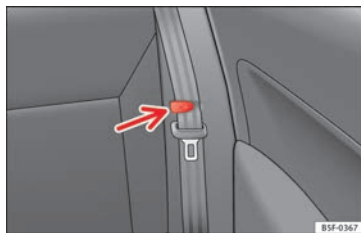

Fig. 149 Clip to support the seat belt.
- Place the side seat belts in the trim clip » **Fig. 149**.